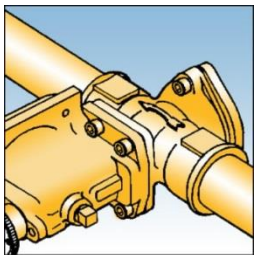

Fig. 1
3. The direction of gas flow must be the same as the arrows on the OPSS body. See Fig. 1.